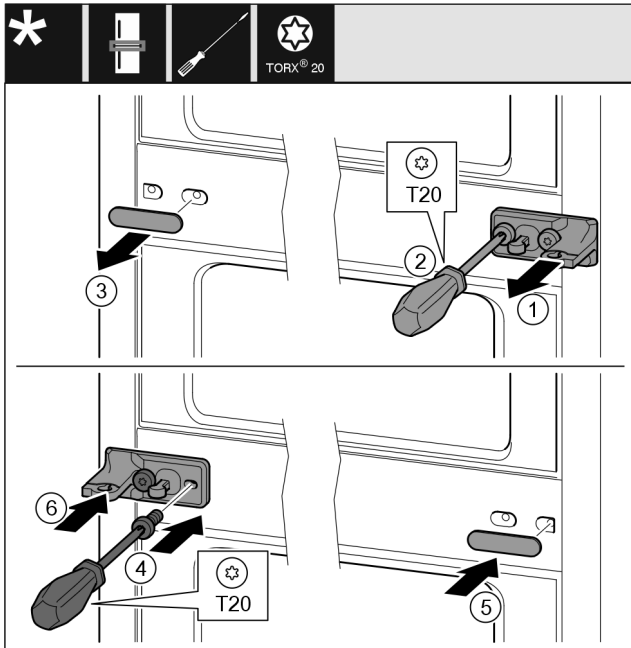

Fig. 12
- ▶ Remove the washer. *Fig. 12 (1)*
- ▶ Remove the screws with the T20 screwdriver. *Fig. 12 (2)*
- ▶ Remove the cover carefully. *Fig. 12 (3)*
- ▶ Screw the bearing bracket and the film rotated 180° firmly onto the other side. *Fig. 12 (4)*
- ▶ Attach the cover rotated 180° onto the other side. *Fig. 12 (5)*
- ▶ Push the washer in from the front. *Fig. 12 (6)*